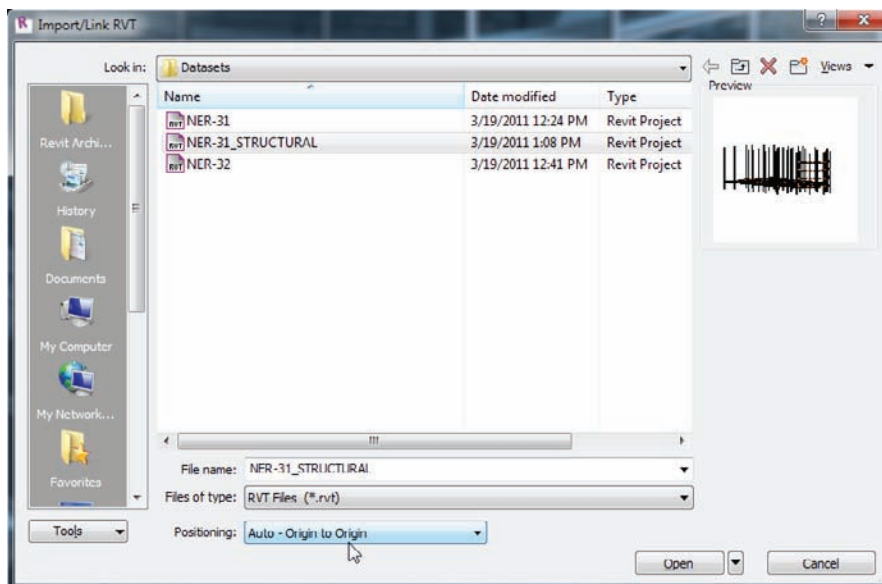

FIGURE 20.2 Pay attention to the choices provided before you click Open.
6. At the bottom of the dialog, you have a choice of positioning. Select Auto - Origin To Origin, as shown in Figure 20.2.